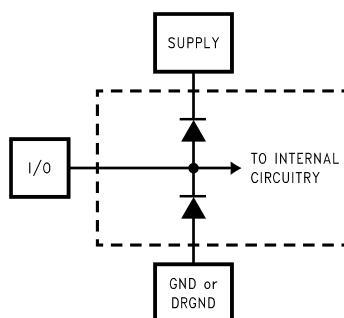

Figure 2.
- (1) The inputs are protected as shown below. Input voltage magnitudes above V_A or below GND will not damage this device, provided current is limited, see Note 4 in the Absolute Maximum Ratings table. However, errors in the A/D conversion can occur if the input goes above V_A or below GND by more than 100 mV. As an example, if V_A is 4.75V, the full-scale input voltage must be ≤4.85V to ensure accurate conversions (see Figure 2).
- (2) To guarantee accuracy, it is required that $|V_A - V_D| \leq 100$ mV and separate bypass capacitors are used at each power supply pin.
- (3) Typical figures are at $T_A = T_J = 25^\circ\text{C}$, and represent most likely parametric norms. Test limits are guaranteed to National's AOQL (Average Outgoing Quality Level).
- (4) Integral Non Linearity is defined as the deviation of the analog value, expressed in LSBs, from the straight line that passes through positive and negative full-scale.
- (1) The inputs are protected as shown below. Input voltage magnitudes above V_A or below GND will not damage this device, provided current is limited, see Note 4 in the Absolute Maximum Ratings table. However, errors in the A/D conversion can occur if the input goes above V_A or below GND by more than 100 mV. As an example, if V_A is 4.75V, the full-scale input voltage must be $\leq 4.85V$ to ensure accurate conversions (see Figure 2).
- (2) To guarantee accuracy, it is required that $|V_A - V_D| \leq 100\text{ mV}$ and separate bypass capacitors are used at each power supply pin.
- (3) With the test condition for $V_{REF} = +2.0V$ (4V_{P-P} differential input), the 12-bit LSB is 977 μV.
- (4) Typical figures are at $T_A = T_J = 25^\circ\text{C}$, and represent most likely parametric norms. Test limits are guaranteed to National's AOQL (Average Outgoing Quality Level).
- (3) With the test condition for $V_{REF} = +2.0V$ (4V_{P-P} differential input), the 12-bit LSB is 977 μV .
- (4) Timing specifications are tested at TTL logic levels, $V_{IL} = 0.4V$ for a falling edge and $V_{IH} = 2.4V$ for a rising edge.
- (5) Typical figures are at $T_A = T_J = 25^\circ C$, and represent most likely parametric norms. Test limits are guaranteed to National's AOQL (Average Outgoing Quality Level).